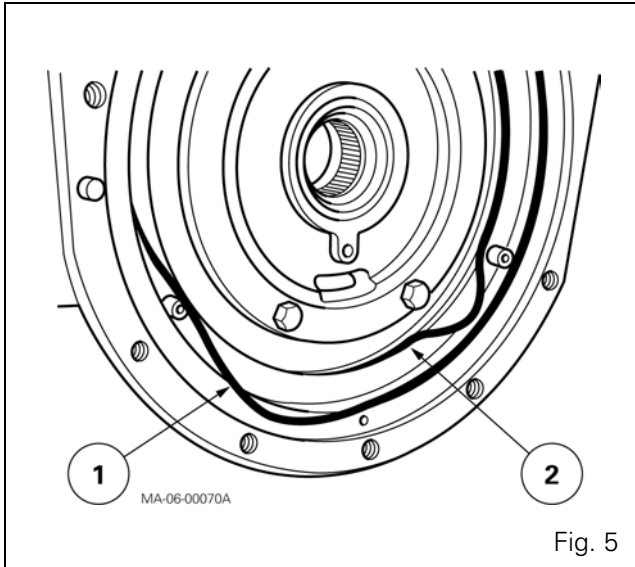

Fig. 5
5. Remove the O'rings (1) (2) on the housing and discard them (Fig. 5).
Fit new O-rings (1) (2) (Fig. 5) after smearing them with a moderate quantity of miscible grease so that they remain at the bottom of the groove.